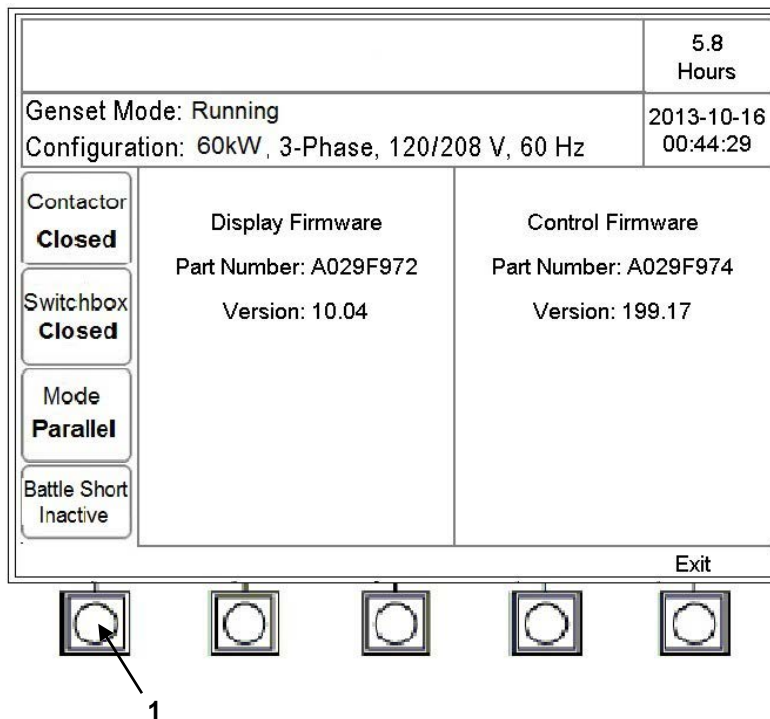
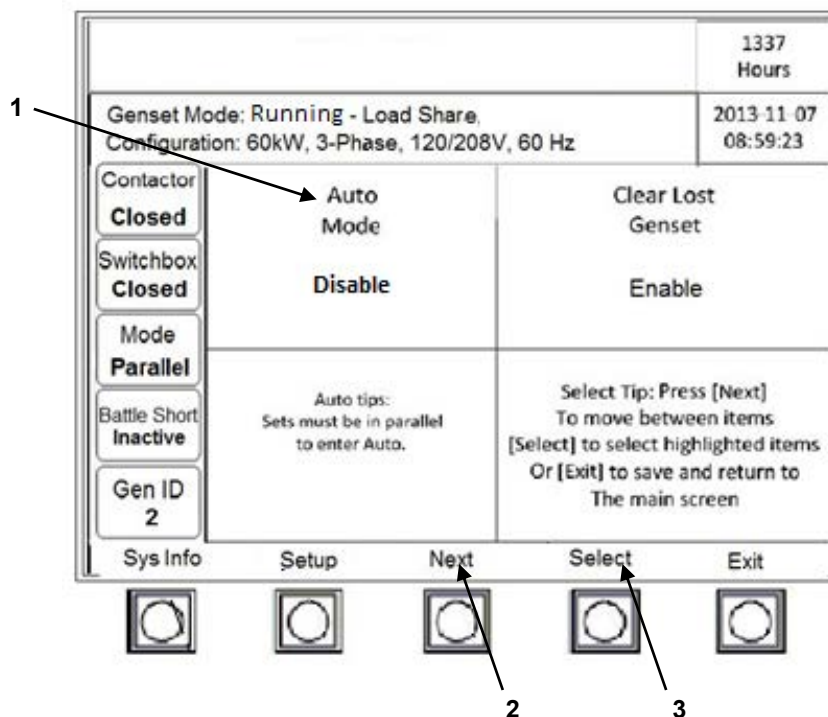

Figure 4-2. About Screen
Figure 4-3. Auto Mode Screen
- (2) Press the [First] soft-key (figure 4-2, item 1) for three (3) seconds to change the display context to the [Auto Mode] screen (figure 4-3).
- (3) If [Auto Mode] (Figure 4-3, item 1) is not highlighted, press [Next] (Figure 4-3, item 2) until it is.
- (4) Press [Select] (Figure 4-3, Item 3).
- c. If [Auto Mode] (Figure 4-3, item 1) is not highlighted, press [Next] (Figure 4-3, item 2) until it is.
- d. Press [Select] (Figure 4-3, Item 3)